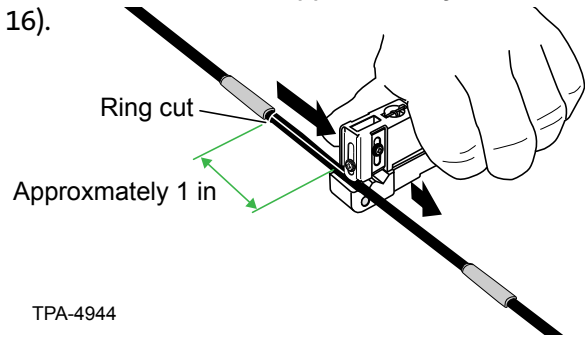

Figure 16
Step 2: Make the second ring cut at the second tape location, or simply trim off jacket (Figure 16).
Step 3: Use the end of the Ideal® tool with a rounded blade installed. Make an approximately 1-in longitudinal cut two ridges on each side (Figure 16).